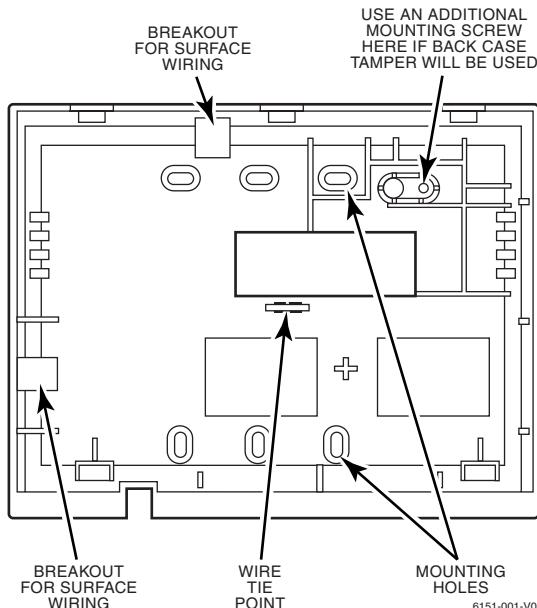

Figure 2. Wiring Entry (Case Back)
For tamper protection, an additional mounting screw must be used in the case back, as shown in Figure 2.
If you wish to tamper-protect the keypad for removal from the wall, use an additional mounting screw in the tamper hole in the case back (see Figure 2 for location).
3. Pass the four power/data wires and zone wires through the opening in the case back. If surface wiring is being used, wiring may be routed through the top or the bottom left-side breakout in the case back. See Figure 2. The breakouts must be punched out using a screwdriver before mounting the case back. If desired, wires may be strain-relieved to the wire tie point on the inside of the case back with a tie wrap (not supplied).